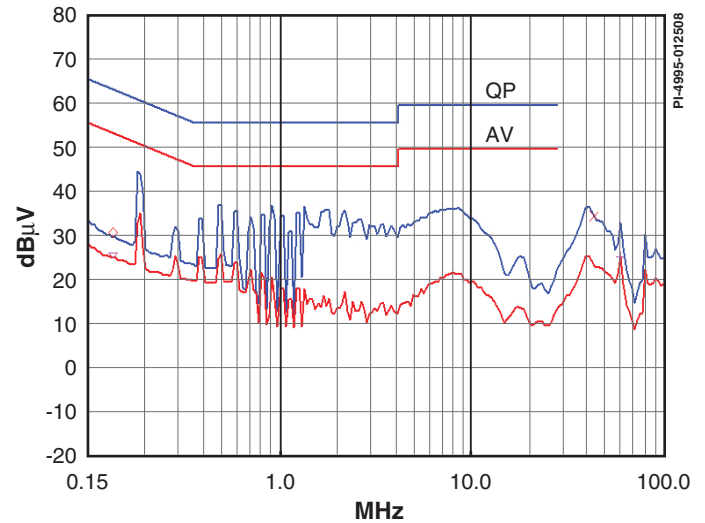

Figure 4. Worst Case Conducted EMI (230 VAC With Output Grounded) Measured Against EN55015 Limits.
- Meets EN55015 B conducted EMI limits with >10 dB $\mu$ V margin (see Figure 4)